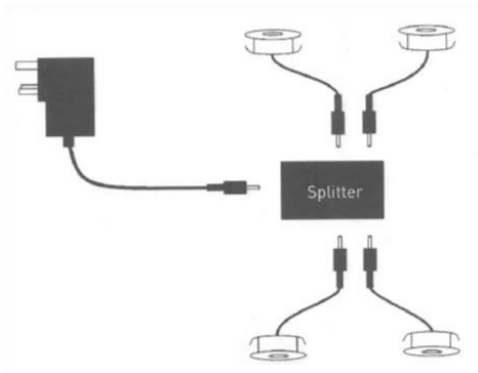

Fig. 2
- Feed the cable of each fitting through the holes and connect the pre-installed plugs into the splitter box (see Fig. 2)